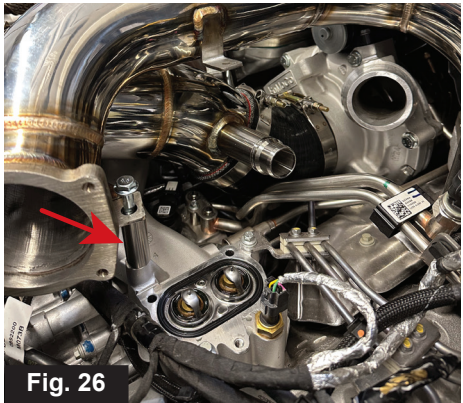

Fig. 26
5. Install the Intake Manifold. Place Spacer (**J**) below the Manifold Support Bracket and start threading the long M8 bolt (**M**). Do not tighten yet. (**Fig. 26**).